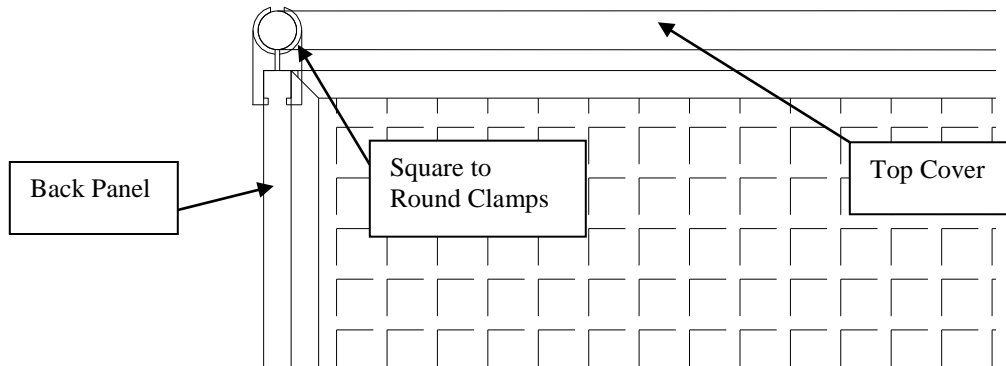

Figure 17.
2. Using square to round clamps, 5/16"-18 x 1-3/4" galv. carriage bolts, and 5/16"-18 nuts, connect the back tube of the top covers to the top of the back panels. Place clamps approx. 3" from the division panels. See Figure 17.